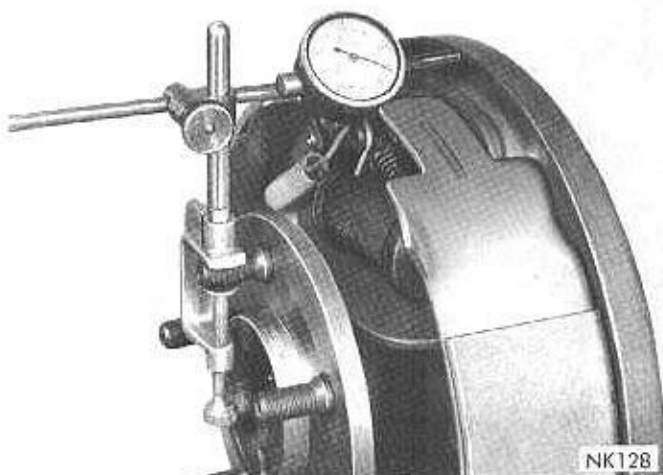

Fig. 14—Measuring Axle Shaft End Play
(1) Using a dial indicator mounted on the left brake support (Fig. 14), TURN THE ADJUSTER CLOCKWISE UNTIL BOTH WHEEL BEARINGS ARE SEATED AND THERE IS ZERO END PLAY IN THE AXLE SHAFTS. BACK OFF THE ADJUSTER COUN-